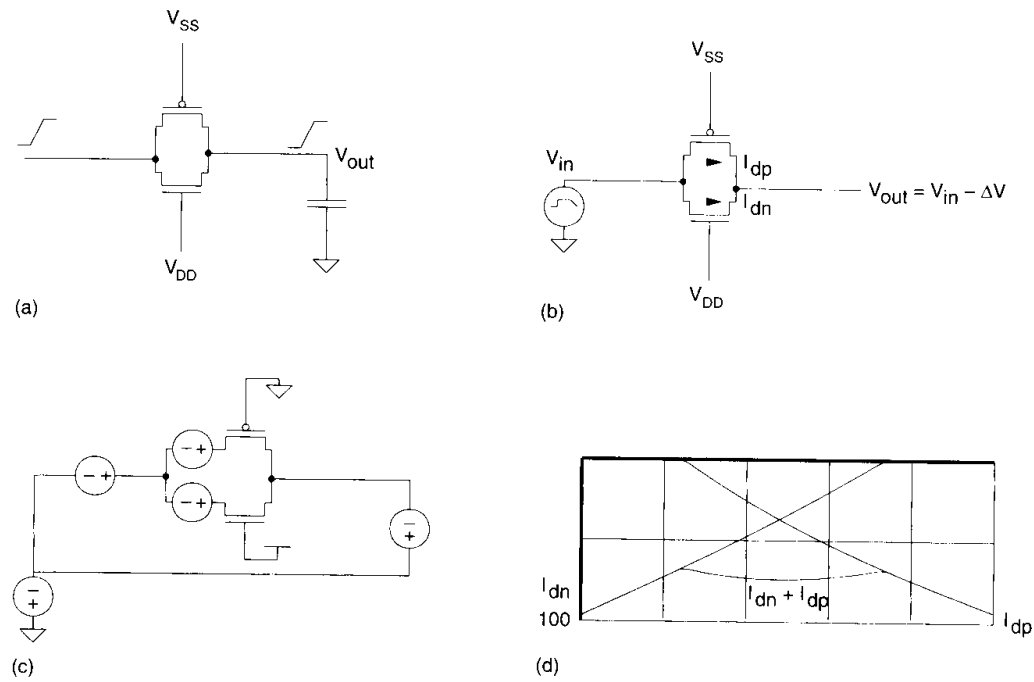
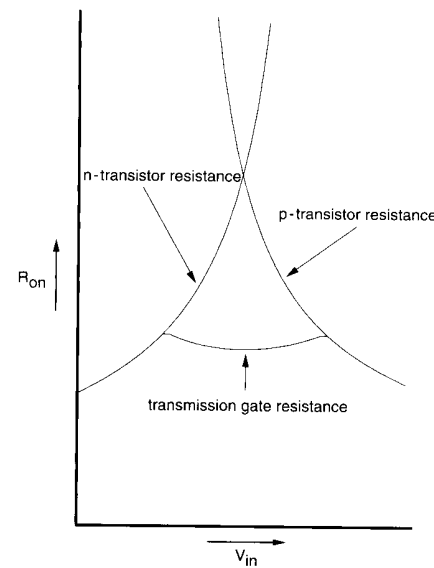

FIGURE 2.35 Transmission gate output characteristic for switched input changing
FIGURE 2.36 Resistance of a transmission gate for conditions in Figure 2.35
- ② Another operation mode that the transmission gate encounters in lightly loaded circuits is where the output closely follows the input, such as shown in Figure 2.35 (c). That is the control input remains at the logic value that makes p- and n-devices “ON” and the input changes from 0 to 1 or 1 to 0.
- Figure 2.35 (a) shows the n- and p- pass transistor currents for $V_{out} - V_{in} = -0.1V$
- Figure 2.36 shows a plot of the effective “ON” resistance of the transmission gate for the test circuit shown in Figure 2.35 (c).